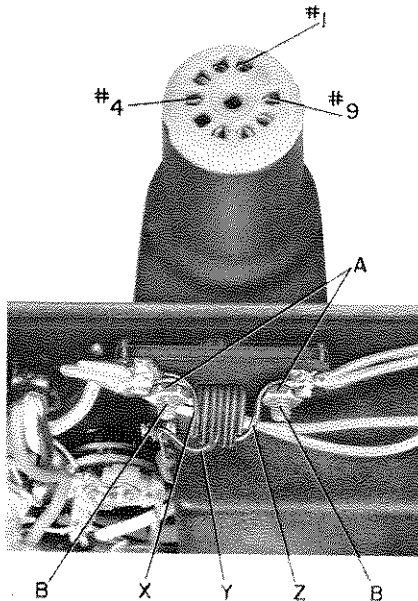

Figure 4-4. Internal view of Type 1531 Strobotac. Lead connection terminals and mounting of swivel-support assembly.
See Figure 4-4. To replace the swivel-support assembly:
d. Position the new swivel-support assembly so that the strobotron tube socket and leads (X, Y, Z) can be mounted as shown in Figure 4-4.
e. Insert leads (X, Y, Z) through the slot between the screws (B), and hold the swivel-support assembly in position between the two pivot blocks. Slide the pivot blocks together and tighten nuts (A). The pivot action of the swivel-support assembly may need adjustment; if so, loosen one nut (A), adjust the corresponding pivot block, and tighten the nut again.
f. Solder leads (X, Y, Z) to terminals (see Figure 4-4).